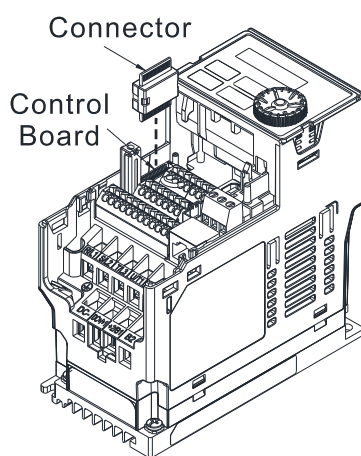

Figure 8-16
2. Mounting the connector: as shown in the Figure 8-16, aim the option card at the connector on the control board and then insert it to the connector.